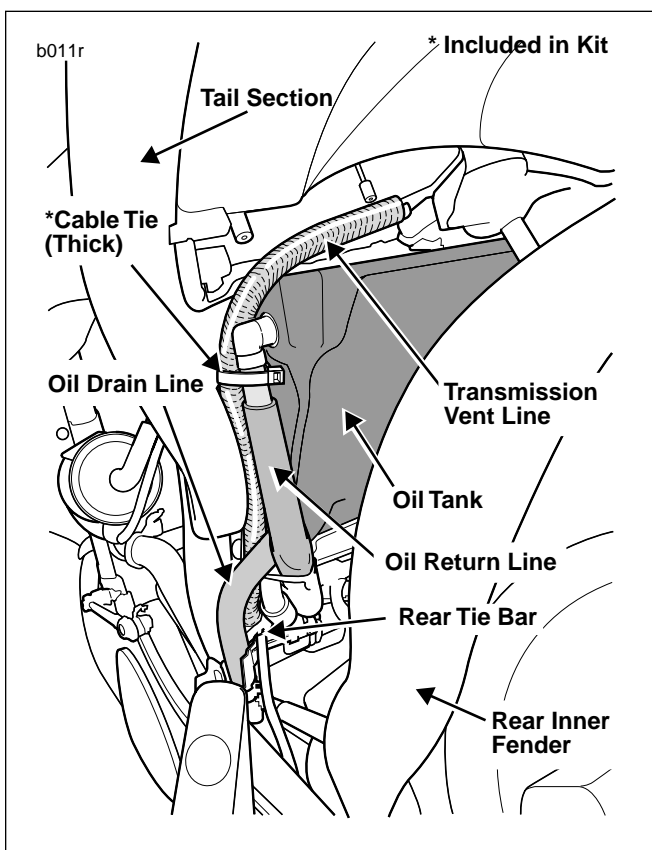

Figure 7. Transmission Vent Line Routing (Rear View)
29. See Figure 7. Reroute transmission vent line to **left** side of motorcycle, **under** battery tray, **over** rear tie bar, **above** rear brake line, **between** oil drain line and tail section, **above** oil return fitting (on oil tank), and **over** the top of the oil tank. Use care to avoid kinking hose after tie bar.
30. See Figure 7. Attach transmission vent line to oil return line as shown with **new** (thick) cable tie.